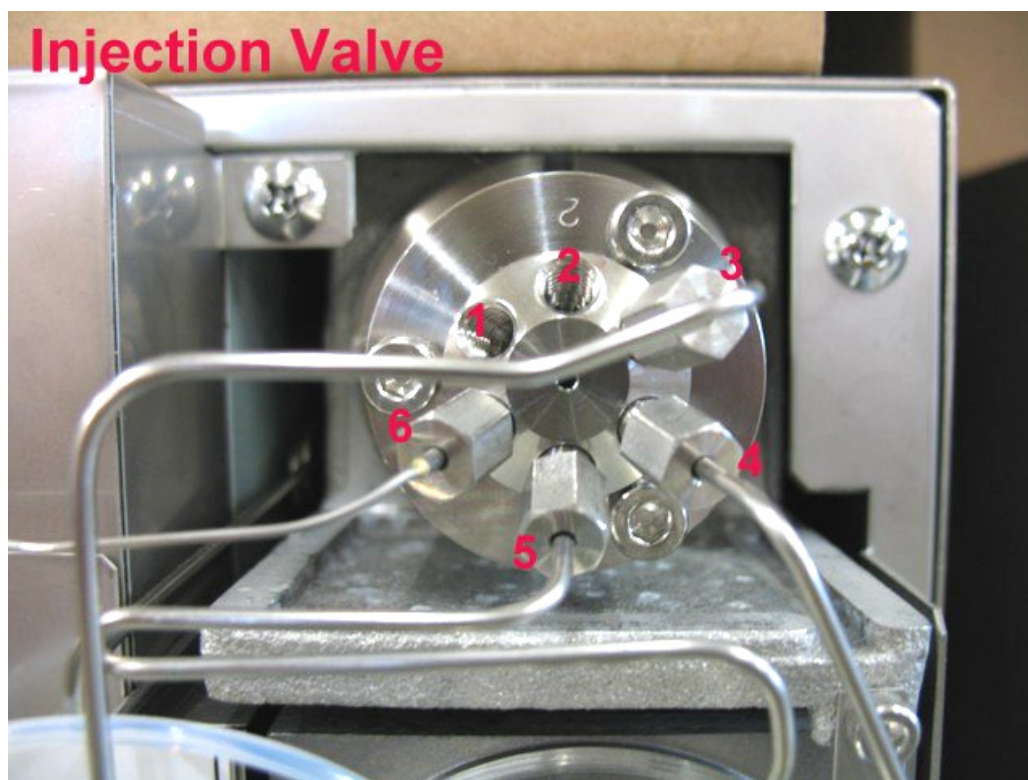

Figure 3: Injection Valve Positions on the Autosampler
5. Disconnect fitting from position numbers **3**, **5** and **6** on the injection valve (*Fig. 3*).